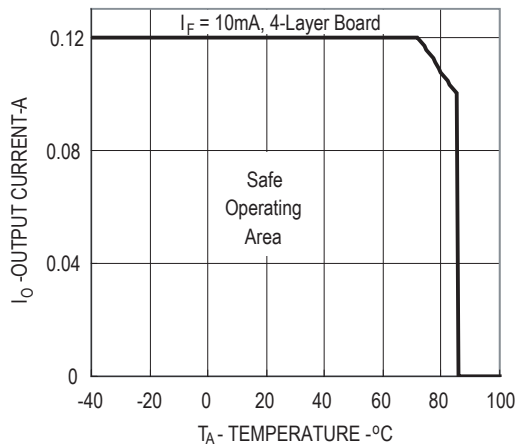

Figure 1. Maximum Output Current Rating vs Ambient Temperature (ASSR-4110-003E)
- For derating, refer to Figure 1, 2, 3 and 4.
Figure 1, 2, 3 and 4 specify the maximum average output current allowable for a given ambient temperature. The maximum allowable output current and power dissipation are related by the expression $R_{ss}=P_o(max)/(I_o(max))^2$ from which R_{ss} can be calculated. Staying within the safe area assures that the steady state MOSFET junction temperature remains less than 125°C.